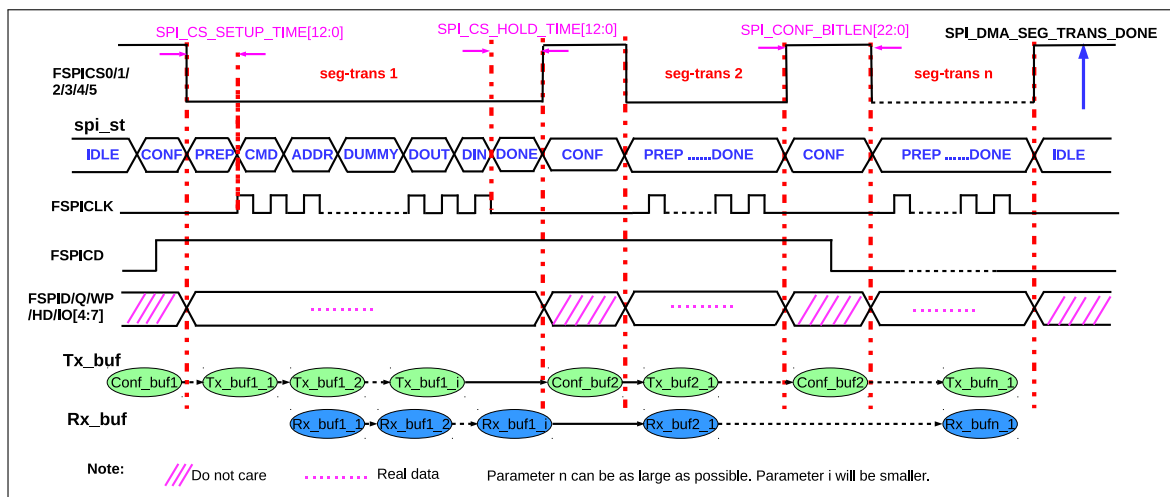

Figure 24-9. Segmented-Configure-Transfer in DMA Controlled Master Mode
An SPI transfer, controlled by the registers of GP-SPI2, needs to be configured and triggered by the CPU. To reduce CPU cost and to increase the efficiency of GP-SPI2, DMA segmented-configure-transfer function is provided in DMA-controlled master mode. (Note that CPU-controlled master mode does not support segmented-configure-transfer function.) Segmented-configure-transfer enables GP-SPI2 to do as many times of transfer as configured, with only one triggering by CPU. Figure 24-9 shows how the segmented-configure-transfer function works in DMA-controlled master mode.
As shown in Figure 24-9, GP-SPI2 registers can be reconfigured by GP-SPI2 hardware according to the content in a `Conf_bufi` during CONF state, before one single segmented-configure-transfer, `SCTi`, begins.
For example, as shown in Figure 24-9, `SCTi` can be configured to DMA-controlled full-duplex communication; `SCTj` can be configured to DMA-controlled half-duplex MISO mode; and `SCTk` can be configured to DMA-controlled half-duplex MOSI mode. *i*, *j*, and *k* are integer variables, which can be any SCT number.
It can be seen from Figure 24-9, Figure 24-10, and Figure 24-11 that a good way for GP-SPI2 to output parallel 8-bit RGB frame data is as follows:
- Data is output in each frame line in a segmented-configure-transfer. One valid video line is transferred in each single transfer (i.e. SCT_i in Figure 24-9) of segmented-configure-transfer. There are `SPI_LCD_VA_HEIGHT[9:0]` active video region lines in a frame, so that a frame data is sent in `SPI_LCD_VA_HEIGHT[9:0]` times of SCT_i.